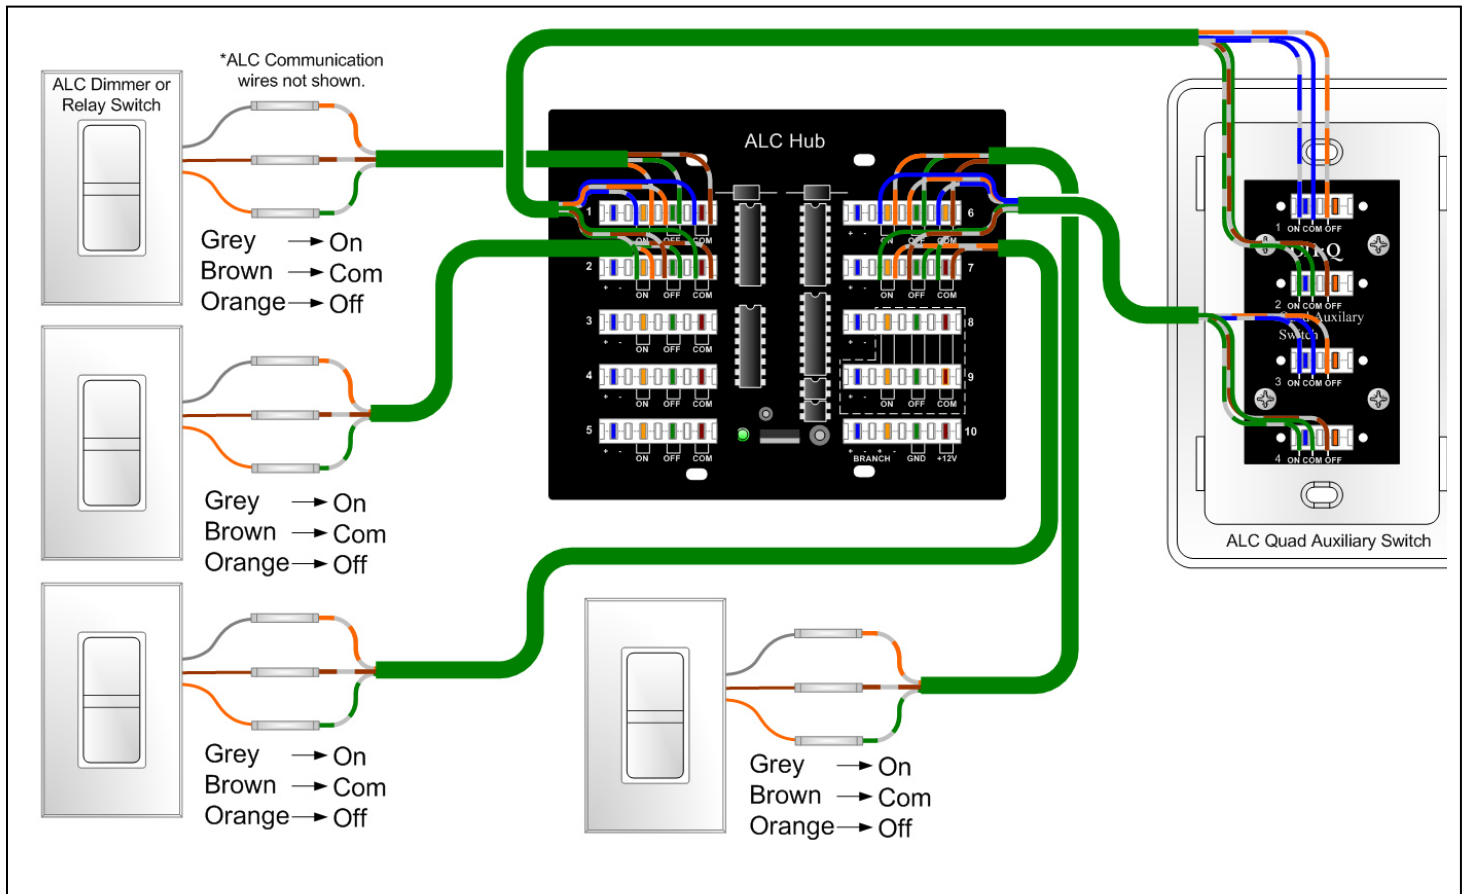

Figure 3
The Quad Auxiliary Switch can be mounted in any single gang wall box or low voltage bracket. Two Cat5 cables should be installed between the location of the ALC Hub and the location of each Quad Auxiliary Switch (see Figure 3).
Step 1: Punch down the Cat5 cable conductors to 110 IDC connectors on the back of the Quad Aux Switch. Figure 3 shows a typical wiring scenario.